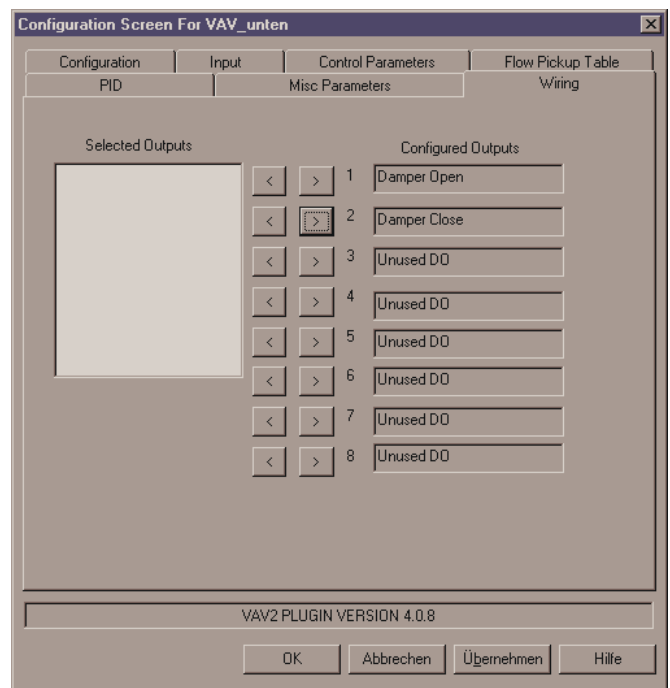

Fig. 9. Wiring tab (default configuration)
1. Open the configuration part of the plug-in and select the "Wiring" tab (see Fig. 9).